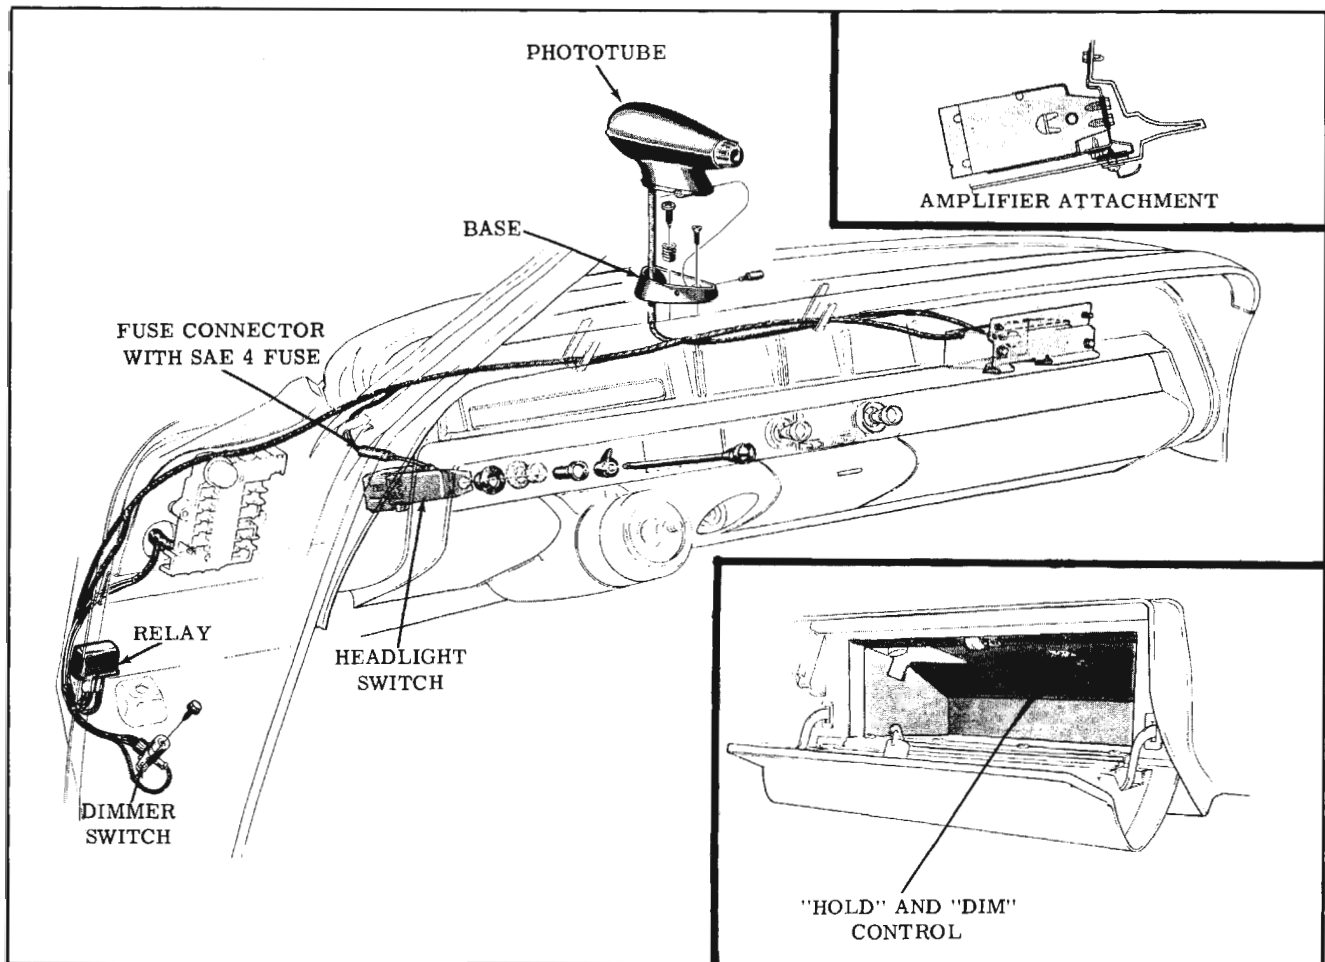

Fig. 13-33 Guide-Matic Installation
The Guide-Matic Power Headlight Control consists of: the phototube, amplifier unit, power relay, and a combination override and foot dimmer switch. (Fig. 13-33)
1. Disconnect the phototube unit harness plug from the amplifier. (Fig. 13-33)
1. Disconnect the fuse connector from the Guide-Matic "off-on" switch terminal on the headlight switch. (Fig. 13-33)